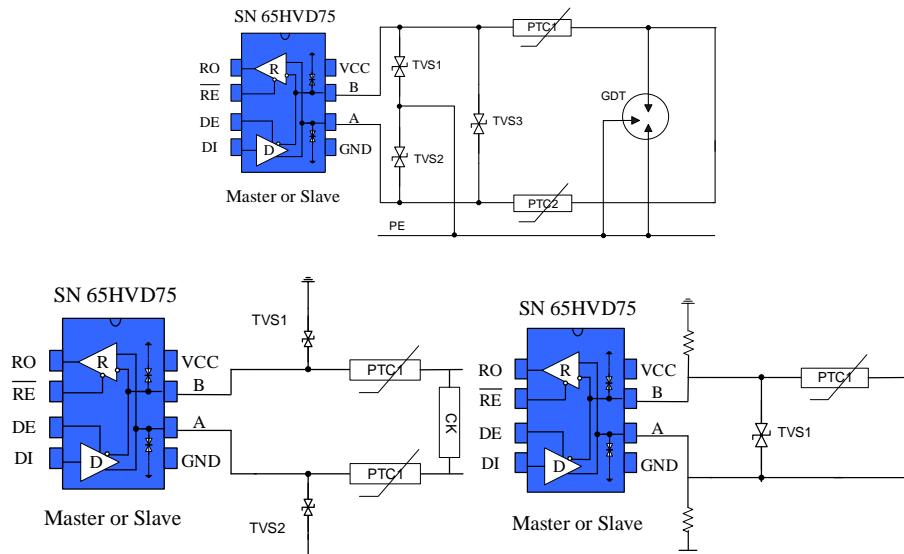

Figure 11 Port protection scheme
3.3 Bus port protection: in severe environment, RS485 communication port is usually provided with electrostatic protection, lightning surge protection and other additional protection, and even the plan to prevent 380V market electricity access is needed to avoid the damage of intelligent instrument and industrial control host. Figure 11 shows three common RS485 bus port protection schemes. The first is the scheme of three-level protection by connecting TVS devices in parallel with A,B port to the protective ground, TVS devices in parallel with A,B port, thermistor in series with A,B port, gas discharge tube in parallel to the protective ground; the second is the scheme of three-level protection by connecting TVS in parallel with A,B port to the ground, thermistor in series with A,B port, and varistor in parallel with A,B port; the third is the scheme of three-level protection by connecting AB with pull-up or pull-down resistor to power and ground respectively, connecting TVS between A & B, A or B port connecting thermistor.